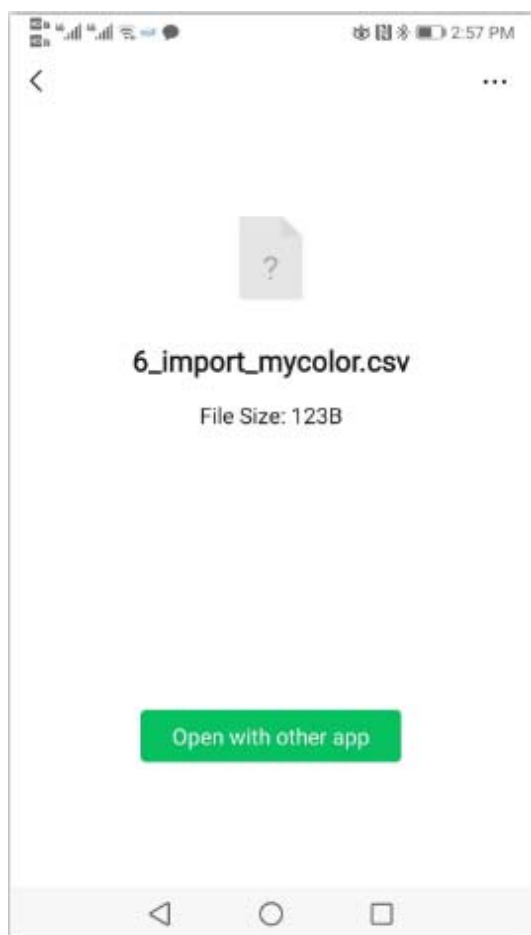

Figure 1
- (1) If the Figure 1 interface appears, click "Open with other app" and select the App "Colorimeter", after confirmation, jump to the import interface and select the file to complete the import.